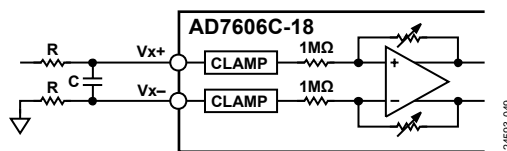

Figure 76. Input Resistance Matching on the Analog Input of the AD7606C-18 for Single-Ended Ranges ( $V_{x-}$  Tied to Ground)
It is recommended to place a series resistor on the analog input channels to limit the current to  $\pm 10$  mA for input voltages greater than  $\pm 21$  V. In an application where there is a series resistance (R) on an analog input channel,  $V_{x+}$ , it is recommended to match the resistance (R) with the resistance on  $V_{x-}$  to eliminate any offset introduced into the system, as shown in Figure 76. However, in software mode, there is a per channel system offset calibration that removes the offset of the full system (see the System Offset Calibration section).